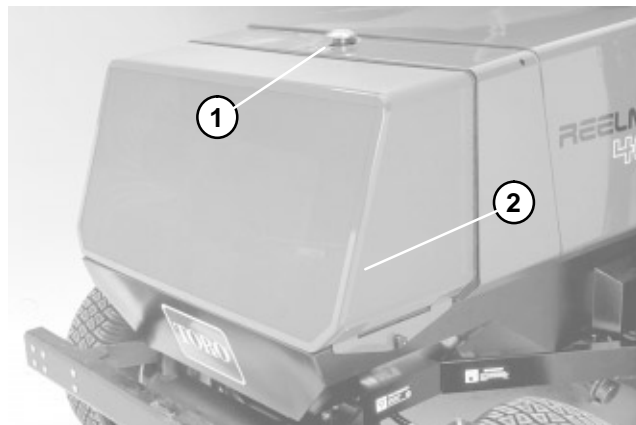

Figure 4
2. Carefully remove radiator cap (Fig. 4) and expansion tank cap (Fig. 5).